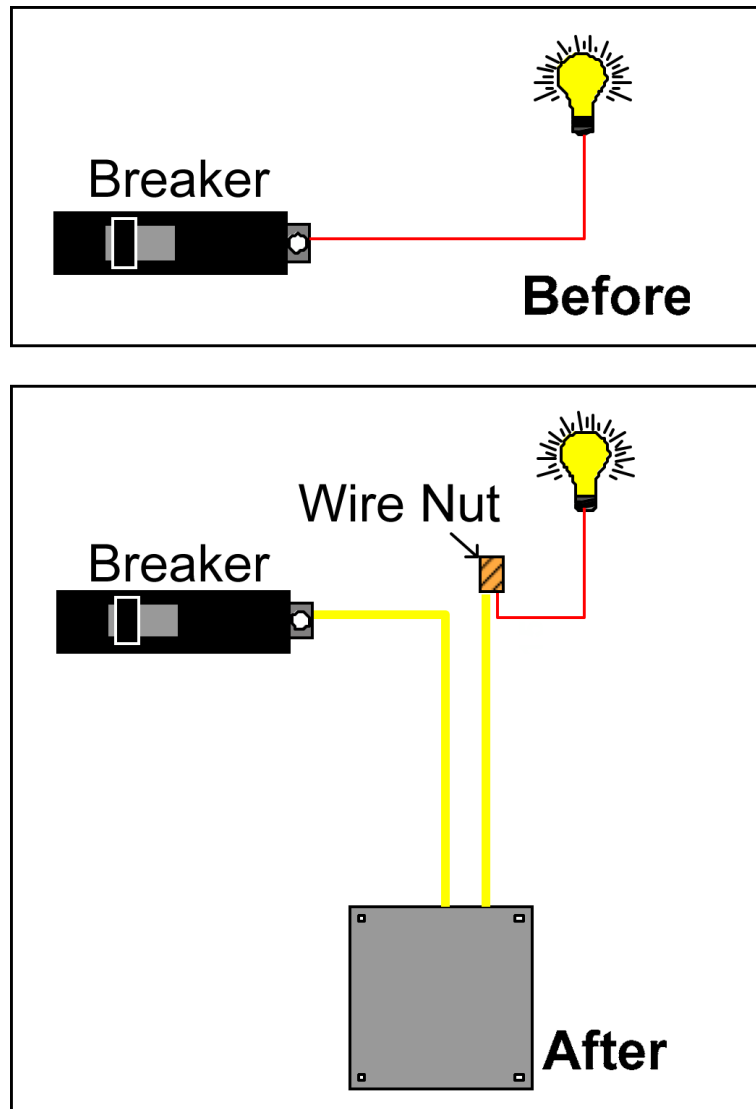

Figure 3.1: Lighting Load Wiring
- b. Disconnect load (BLACK) wire from each marked breakers (from previous *Step 1b*) one at a time and insert one side of color-coded ModelMinder control wire in the breaker where the load wire was removed. (**Figure 3.1**)